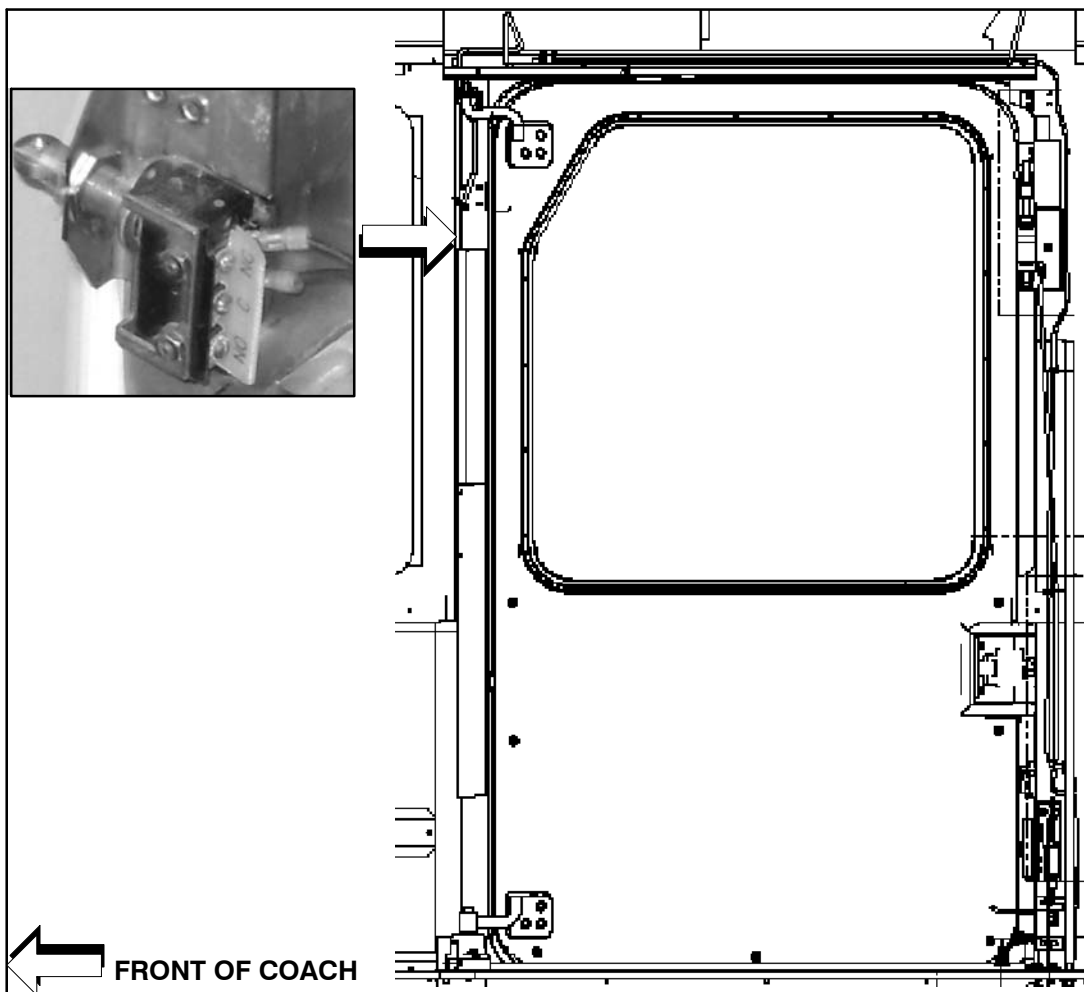

Figure 17.
- 20. Locate the switch and actuator from upper, forward corner of the door (refer to Figure 17). Disconnect the harness. Carefully remove and retain the existing switch and actuator.